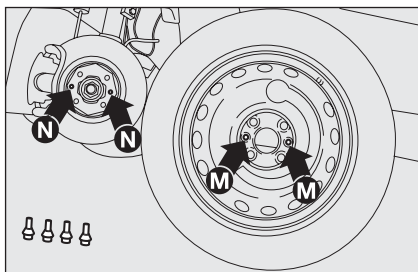

fig. 14
- ☐ fit the space saver spare wheel making the holes **M**-fig. 14 coincide with the corresponding centering pins **N**;